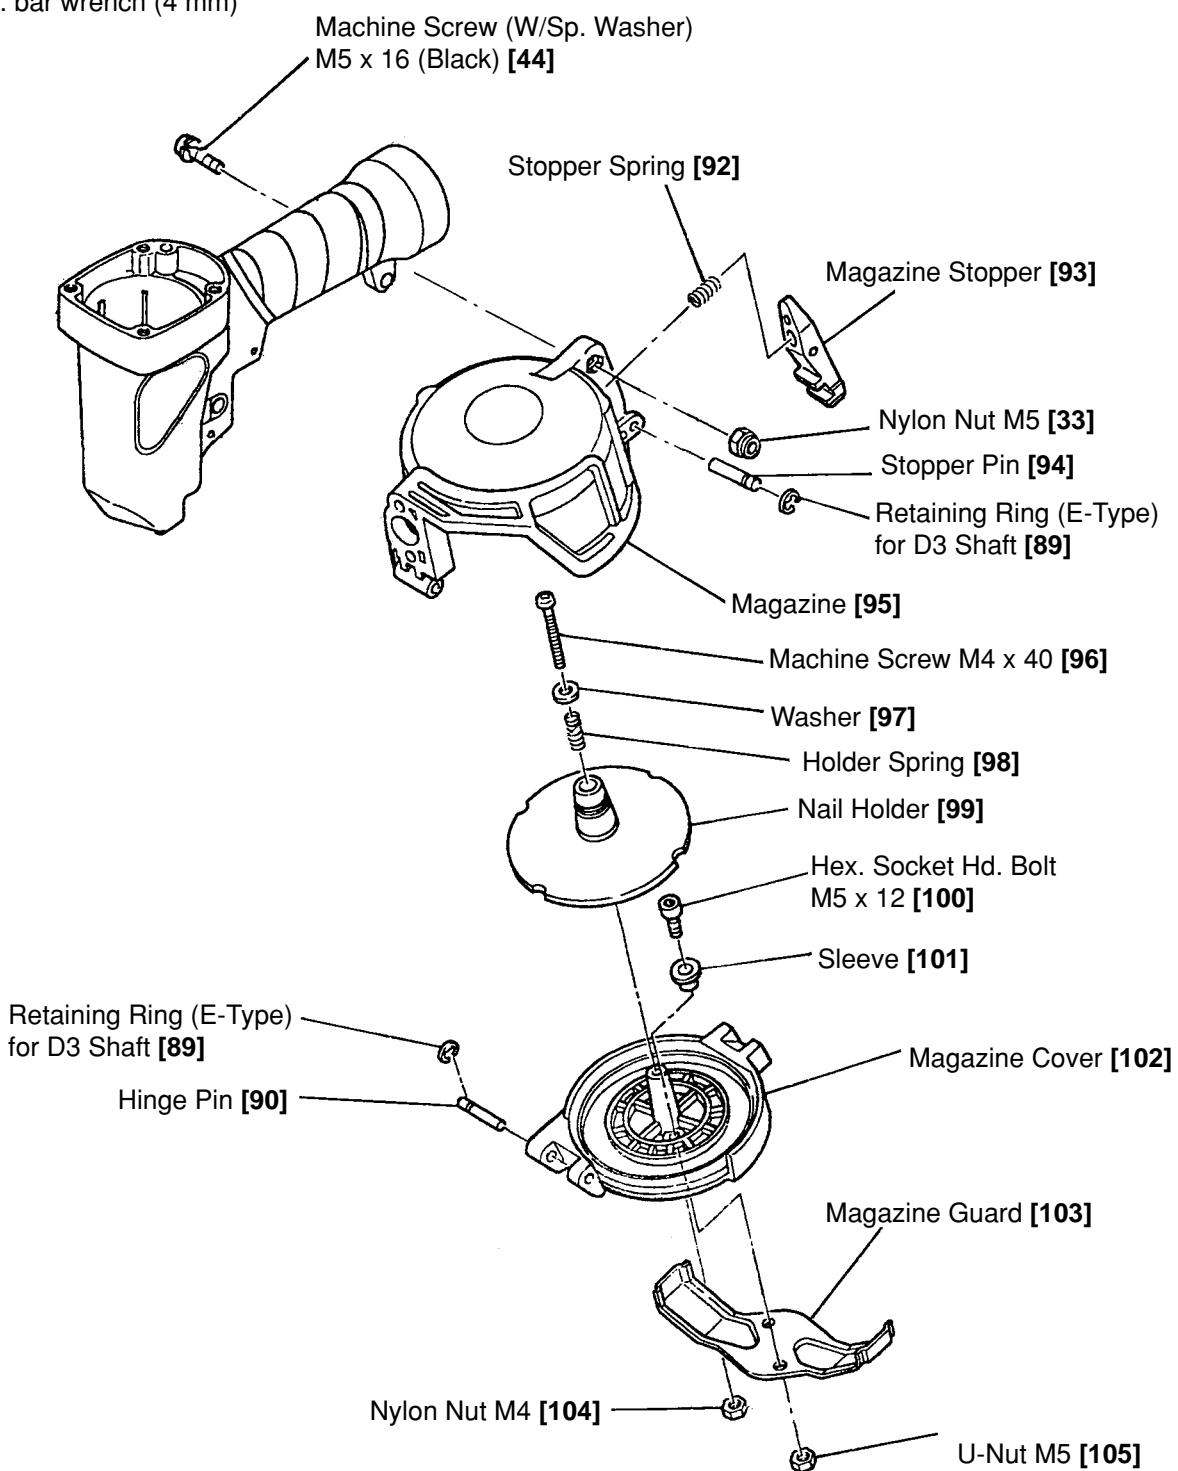

**Fig. 24 Disassembly and reassembly of the cap**
### (1) Disassembly and reassembly of the Cap [49] (See Fig. 24)